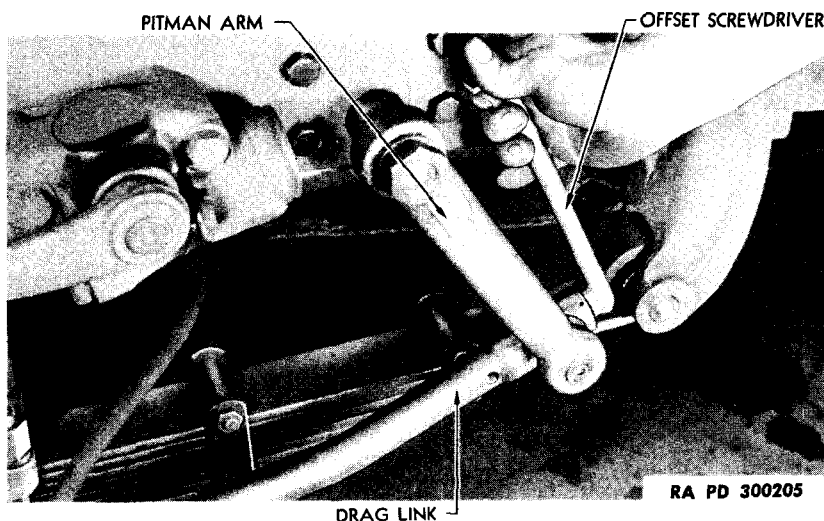

Figure 118—Adjusting Steering Drag Link
b. Adjustment Procedure. Remove cotter pin. Screw adjusting plug into drag link with offset screwdriver (fig. 118). Turn plug inward until it is tight against ball. Be sure bearing seats are well lubricated. Back off adjusting plug $\frac{1}{2}$ to 1 turn and test action of ball in bearing seat by moving drag link by hand. Drag link adjustment must be tight enough to prevent end play, and yet loose enough to allow free movement. Insert new cotter pin to lock adjustment.
c. **Remove Pitman Arm.** Remove cotter pin from pitman arm end of drag link. Use an offset screwdriver and loosen adjusting plug in end of drag link (fig. 118). Withdraw drag link from pitman arm